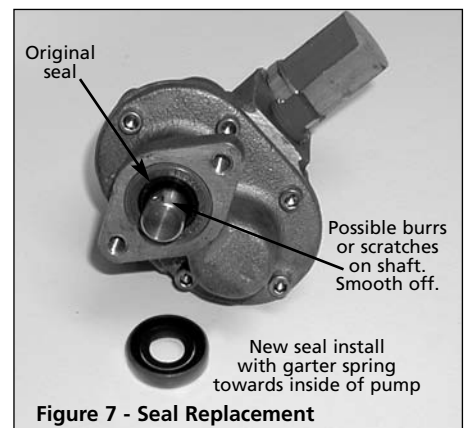

Figure 7 - Seal Replacement
- For replacement only, pry out lip seal (Ref. No. 13) and replace seal with garter spring towards inside or body of pump (See Figure 7).
- The relief valve is disassembled by removing the valve stem cap (6), valve stem lock nut (5), valve stem gasket (7), valve stem (4), valve spring (3), and the ball (2). Parts should be inspected for wear or damage. In particular, check inside the cover on the valve seat for pitting or damage.
- If the pump performs well but leaks, the lip seal should be replaced (See Figure 7). If there is excessive wear on gears, shafts or other pump components, the entire pump should be replaced.